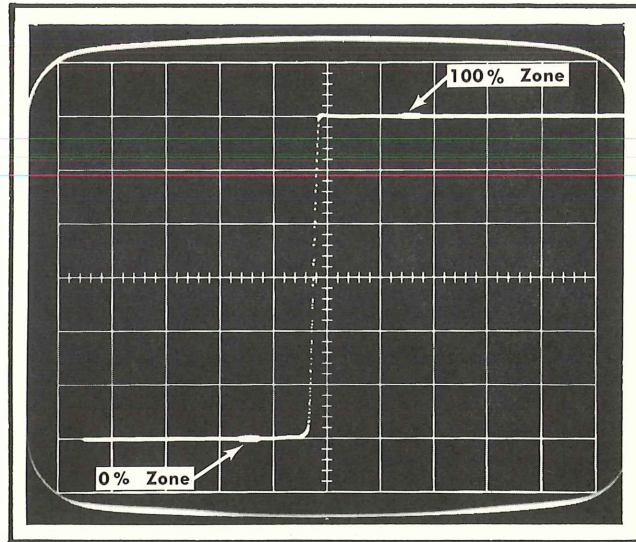

Fig. 5-9. Square wave voltage measurement to set Digital Gain.
- e. Set the Type 3T77A for a sweep rate of 2 μ s/div and adjust the Trigger Sensitivity to display less than one cycle of calibrator square wave. See Fig. 5-9.